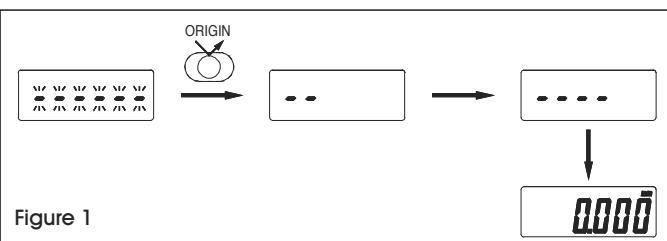

Figure 1
**IMPORTANT! When the battery has been installed, first press the ORIGIN button to zero the micrometer, but do not rotate the thimble while the preset values are being set. (See Figure 1)**
**IMPORTANT!** When the battery has been installed, first press the ORIGIN button, but do not rotate the thimble while the preset values are being set. (See Figure 1) Rotating the thimble during this time may result in the failure of setting the default settings. Reinstall the battery if you moved the thimble during this time.